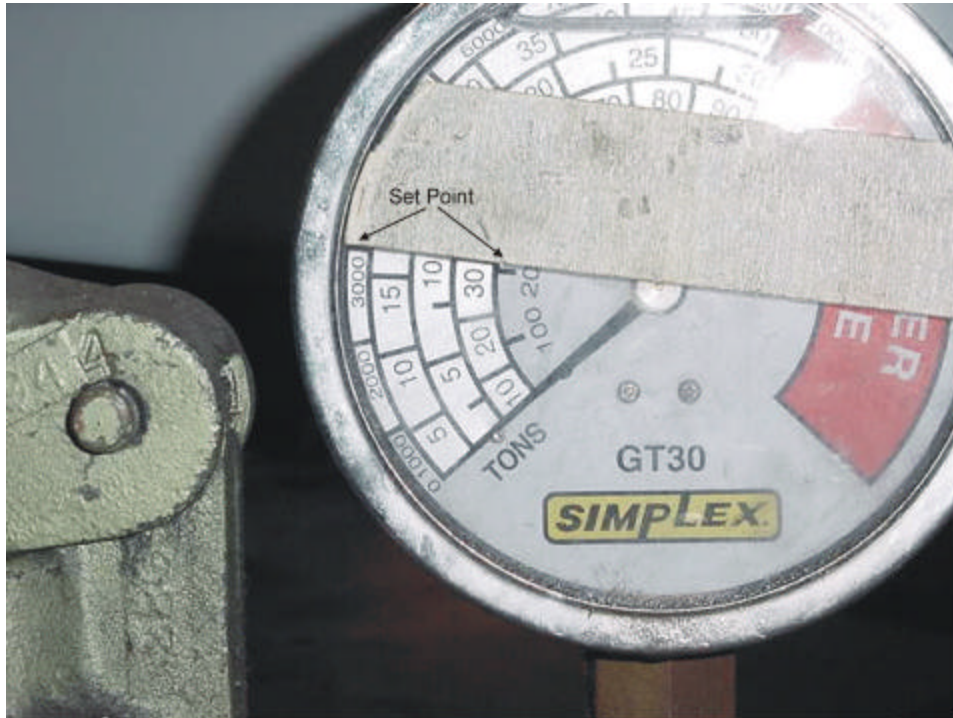

Figure 6
- 9) Pump the Porta-Power to 3000psi. Figure 6